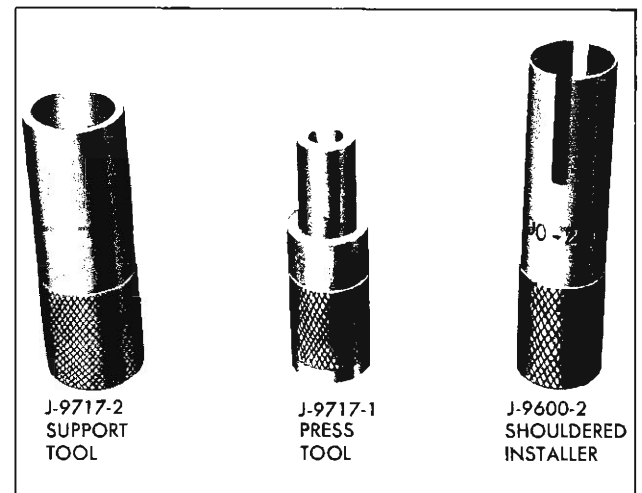

Fig. 27—Diode Remover and Installer Tools
1. Support end frame with support Tool J-9717-2 and press out diode with diode removal Tool J-9717-1 and an arbor press (fig. 27).